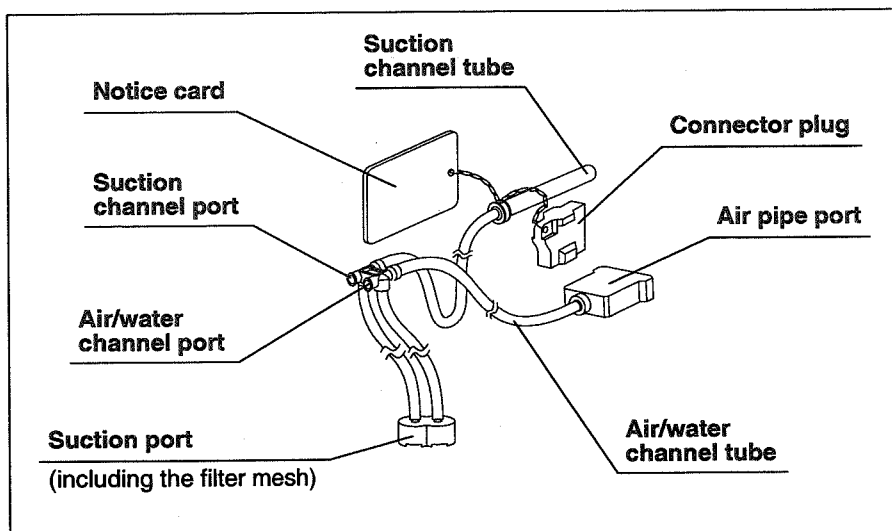

Figure 3.4
The injection tube is used to inject detergent solution, disinfectant solution, water and alcohol into the air/water and suction channels and to flush air through the channels to expel fluids (see Figure 3.4).
1. Confirm that all components of the injection tube are free from cracks, scratches, flaws and debris (see Figure 3.4).